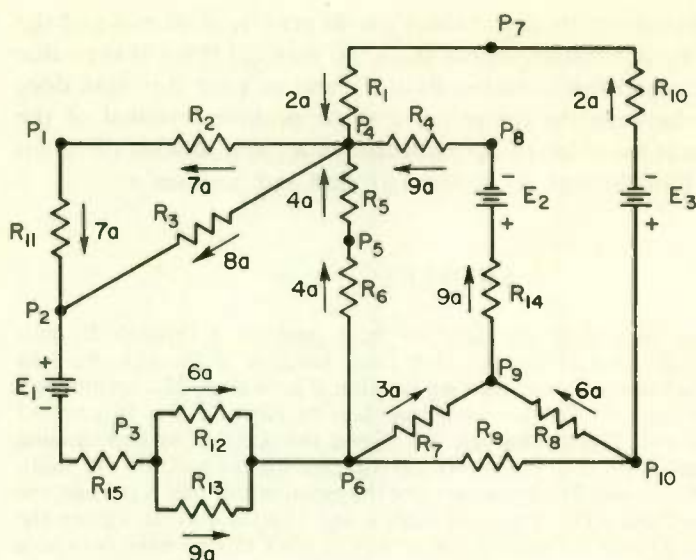

Fig. 7 Application of Kirchhoff's current law to circuit with many branches.
2 **CIRCUITS WITH MANY BRANCHES . . .** You can use Kirchhoff's current law just as easily in a circuit with many branches, such as the formidable looking one of Fig. 7, as in a circuit with few branches. An ammeter was used to measure the current through most of the components in Fig. 7, and the currents so measured are shown on the diagram. Pick out any junction you wish in the circuit, and you will find that the sum of the currents entering that junction is equal to the sum of the currents leaving. For example, take junction P_4 . Currents come into this junction through R_1 , R_4 , and R_5 . The sum of the currents coming in is 2 amp + 9 amp + 4 amp = 15 amp. Current leaves the junction through R_2 and R_3 . The sum of the currents leaving is 7 amp + 8 amp = 15 amp, which is equal to the current entering.
1. In Fig. 7 the current through R_5 is the same as the current through R_6 because (the current leaving point P_5 must equal the current entering) (R_5 and R_6 are in series with R_1).
2. What value of current flows through R_{15} in Fig. 7 and in which direction does it flow?
3. What is the current value and what is the direction of current through R_9 of Fig. 7?